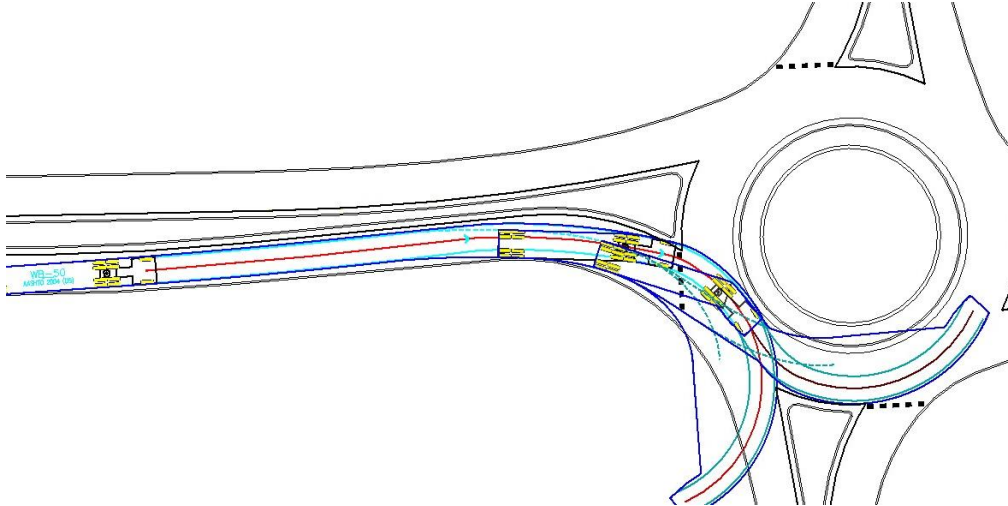

Figure 31 – Example of Preview Arc Path
4. Move the cursor in the direction the vehicle is traveling and click to place points for the vehicle to follow. Checking Preview Arc Path in Step 3 allows the user to see where the tires and vehicle body would fall following the smallest turning radius of the chosen vehicle, see **Figure 31**. This is a useful guide when navigating tight movements.